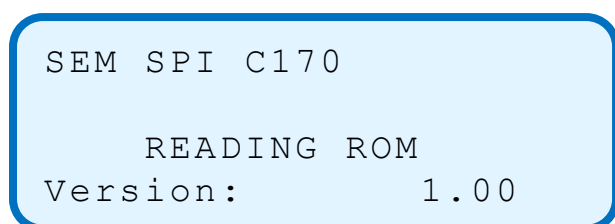

Figure 12.3.1.1.
4. The normal boot screen like *figure 12.3.1.1* appears, and the line 'READING ROM' flashes.